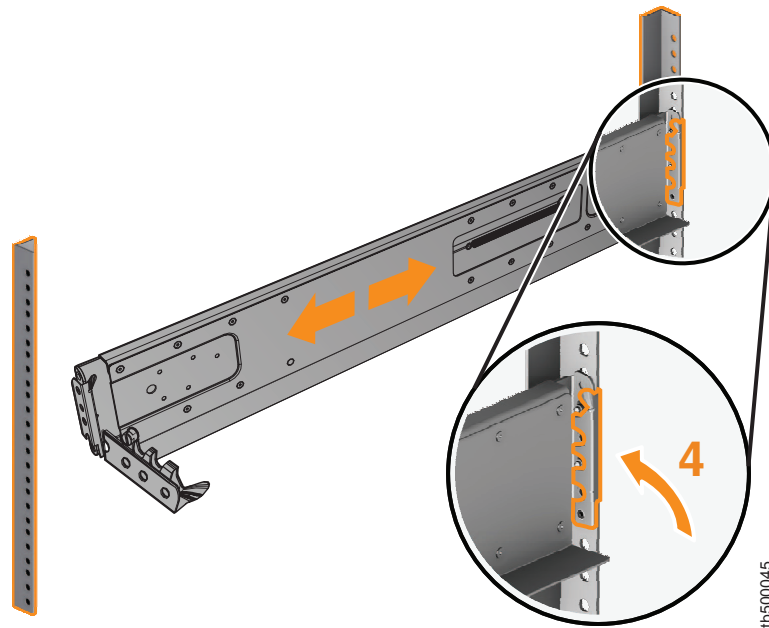

Figure 14. Opening the hinge brackets
5. At each end of the rail, grasp the tab and pull *firmly* to open the hinge bracket. (See Figure 14 on page 23.)